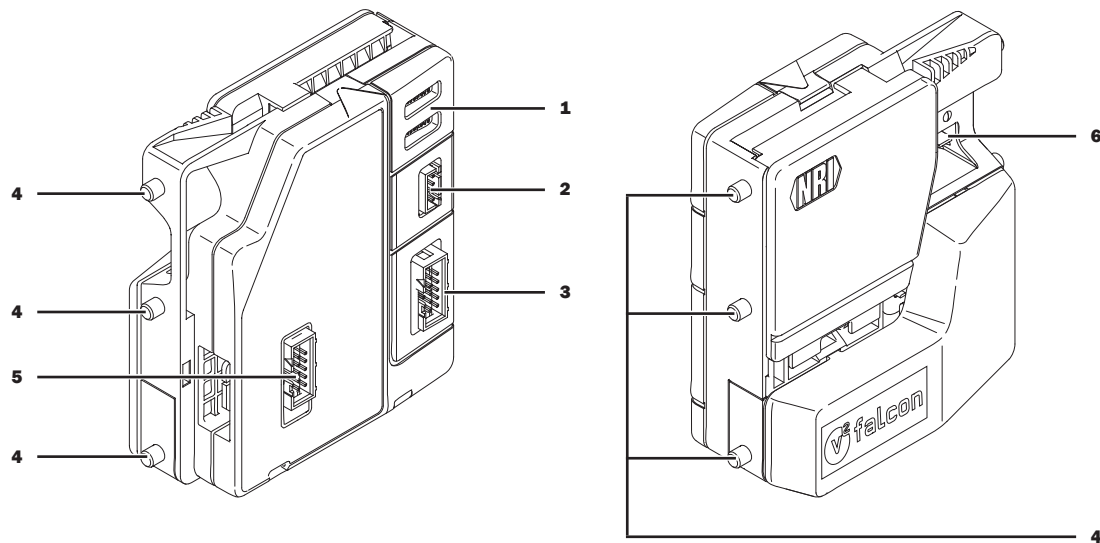

Fig. 7: Installation
- 1** If necessary, make individual settings on the switch blocks [Fig. 7/1] (cp. Chap. 7 Operation, p. 28).
- 2** If necessary, mount the 3-fold sorter on the coin validator and connect the sorter with the validator using the sorter interface [Fig. 7/3].
- 4** Connect the coin validator via the relevant machine interface [Fig. 7/2, 5, 6] and the associated connecting cable to the machine.
- 5** Suspend the coin validator on its lateral mounting studs [Fig. 7/4] in the machine mount.